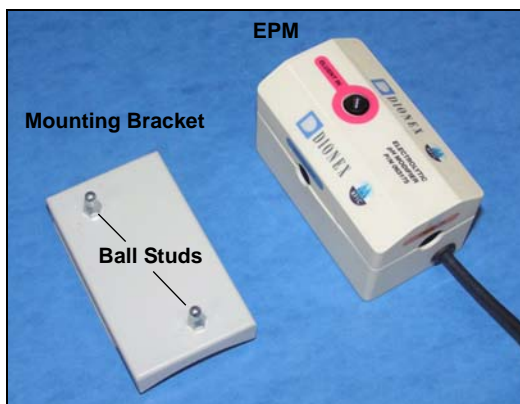

Figure B-61. EPM and Mounting Bracket
2. Push the EPM onto the ball studs on the mounting bracket (see Figure B-61).